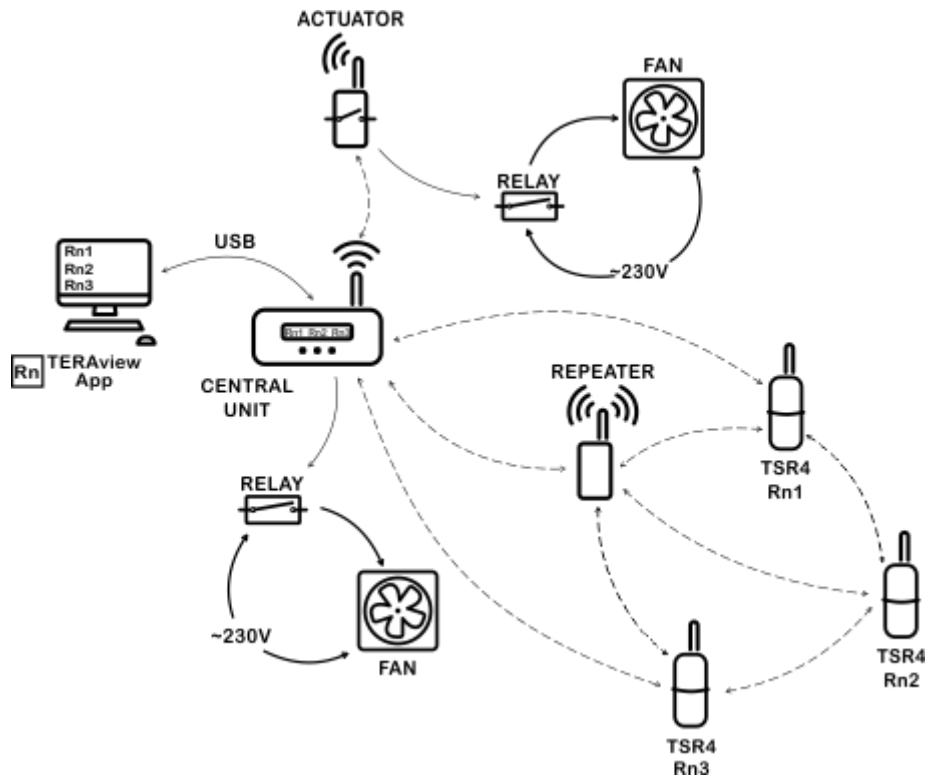

Figure 2 – TRR3 Wireless Repeater in TERA System for Regulating Radon Concentrations
- B) TERA System for Regulating Radon Concentrations (Figure 2)